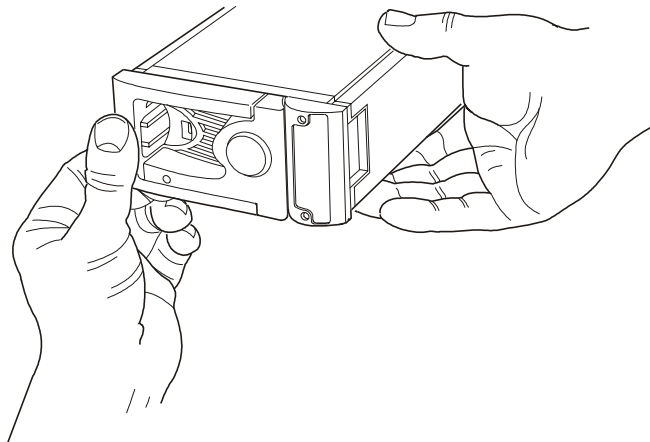

Figure 2–19 Installing an FC-AL Drive Carrier Module (1)
- 2 Insert into chassis (Figure 2–20).